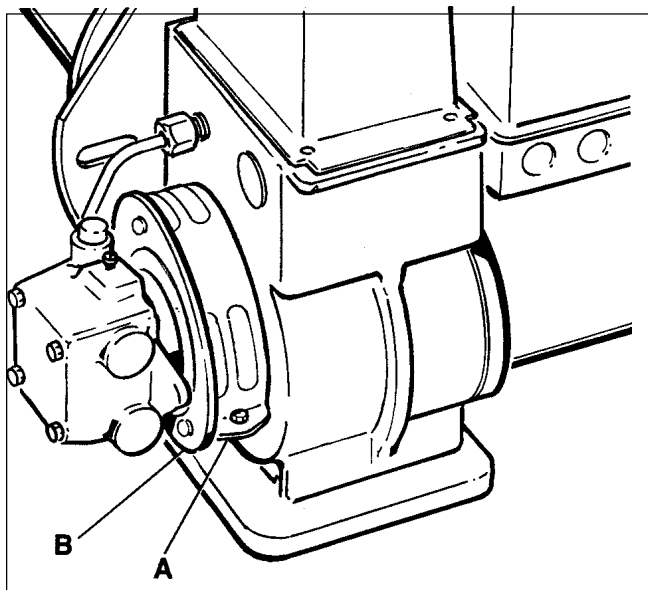

Figure 17. Initial Air Adjustment.
4. Check the initial air adjustment (see Fig. 17). Normally, the bulk air band (A) and the end air shutter (B) should be partially open. It is factory set for both indoor and outdoor installations, but check it again after completing the installation by measuring the CO₂. It should be 12% CO₂ with zero smoke. Set a barometric draft control to give .02" to .03" W.C. draft below the draft control when the heater is installed indoors.